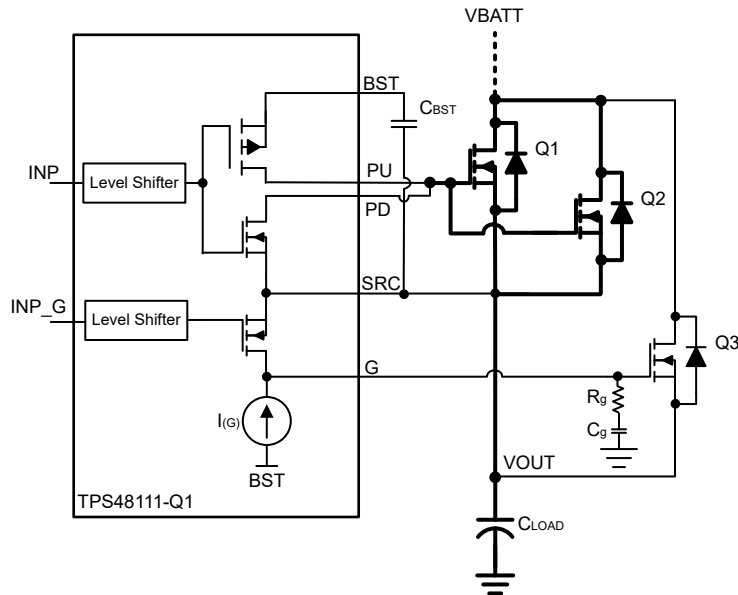

図 8-7. Capacitor Charging Using Gate Slew Rate Control of Precharge FET
The TPS48111-Q1 integrates precharge gate driver (G) with a dedicated control input (INP\_G). This feature can be used to drive a separate FET that can be used to precharge the capacitive load. 图 8-7 shows the precharge FET implementation for capacitive load charging using TPS48111-Q1. An external capacitor  $C_g$  reduces the gate turn-ON slew rate and controls the inrush current.